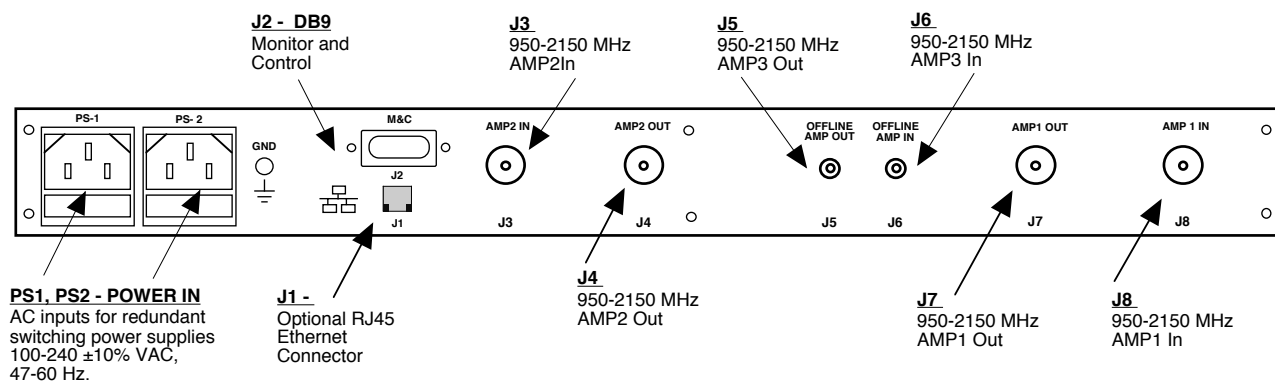

FIGURE 2.1 2282-122-23 Rear Panel I/O's
Figure 2.1 shows the input and output connectors on the rear panel.
1. Connect external Amplifier inputs and outputs to the 2282 via respective RF connectors (Figure 2.1).
2. Connect two 100-240 $\pm 10\%$ VAC, 47 - 63 Hz power cords to PS1 and PS2 on the back panel (Figure 2.1).